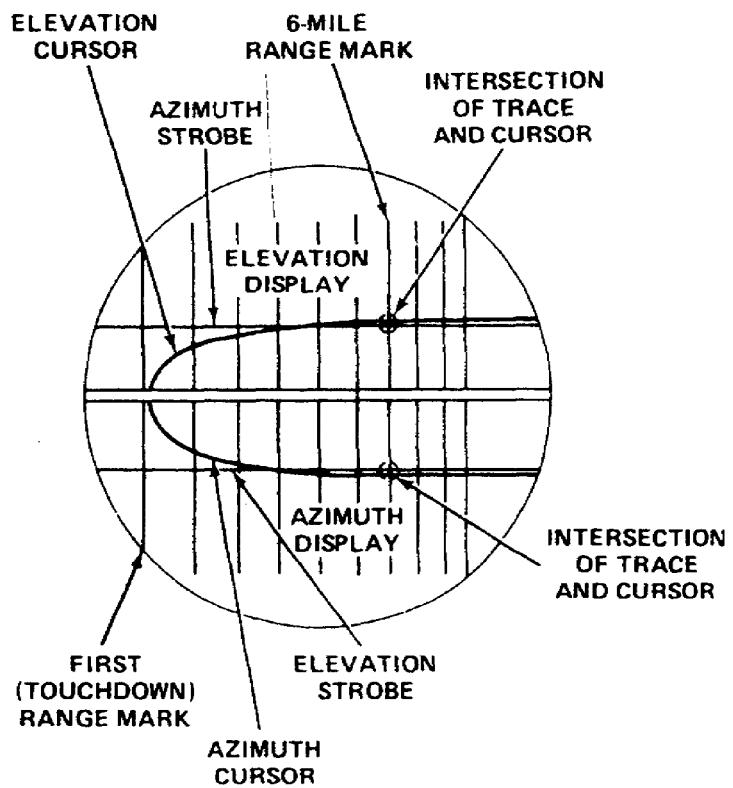
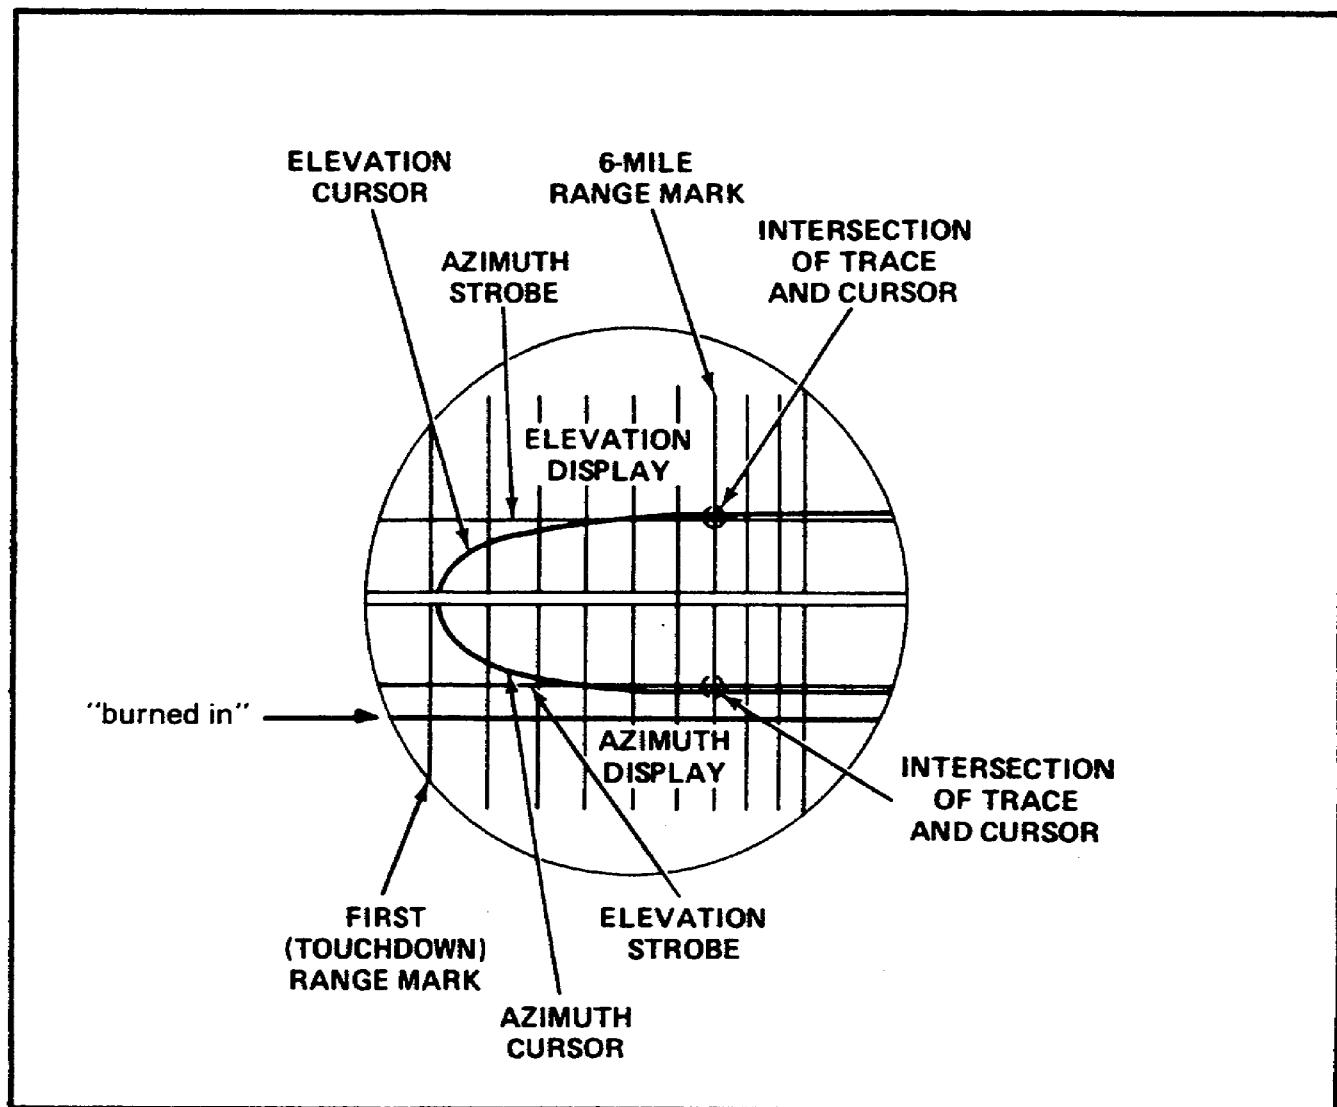

Figure 37. Indicator, azimuth-elevation-range
Figure 40. Indicator, azimuth-elevation-range IP-800/FPN-40.
o. Locate the following on the indicator display of indicator azimuth-elevation-range IP-800/FPN-40. (See Figure 37.)
- (1) Elevation servo strobe.
- (2) Azimuth display.
- (3) Elevation display.
q. Release the CURSOR ALIGN switch S2807 on control, radar set C-2074/FPN-33. Notice that the display on indicator, azimuth-elevation-range IP-800/FPN-40 returns to normal. Notice also that where the reference strobe had appeared, there is a "burned in" trace. (See Figure 40.)
NOTE: The EL STROBE ADJ control R408 located in computer navigational CP-338/FPN-33 is used to align (superimpose) the elevation servo strobe (Figure 37) over the "burned in" reference strobe (Figure 40).
- Elevation servo strobe (Figure 37)
- Azimuth display (Figure 37)
- Elevation display (Figure 37)